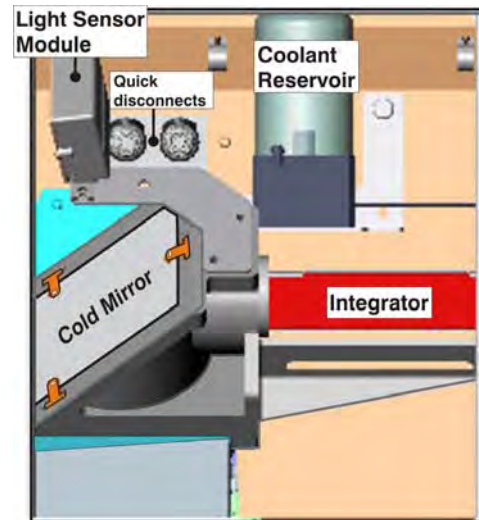

Figure 5-24 Compartment
4. From the other two tabs, *loosen* one 2.5mm screw from each and *remove* one 2.5mm screw from each. This allows the tabs to be swung out of the way without fully removing them. (**Figure 5-24 Compartment, on page 5-18**)